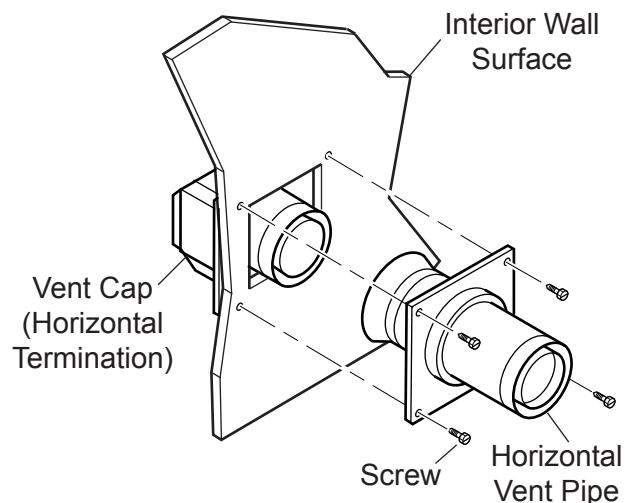

Figure 24 - Connecting Vent Cap with Horizontal Vent Pipe
5. Slide fire stop over the vent pipe before connecting horizontal run to vent cap. See Figure 24.
7. Slide fire stop against the interior wall surface and attach with screws. See Figure 24.